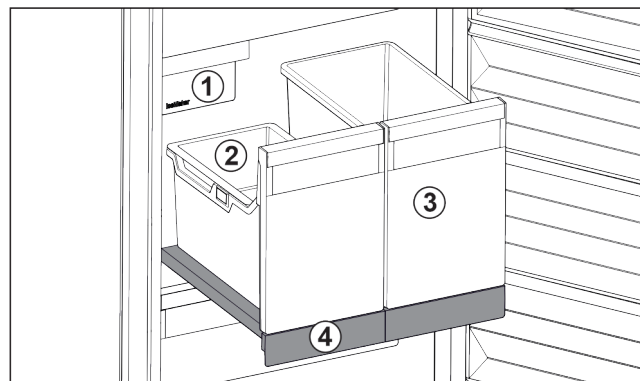

Fig. 94 Pull-out board with IceTower
There are two high (IceTower) containers on the pull-out board. Ice cubes from the IceMaker are collected and stored in the Fig. 94 (2) container. The container Fig. 94 (3) is suitable for storing tall foodstuffs or beverages such as pizzas or alcoholic drinks.